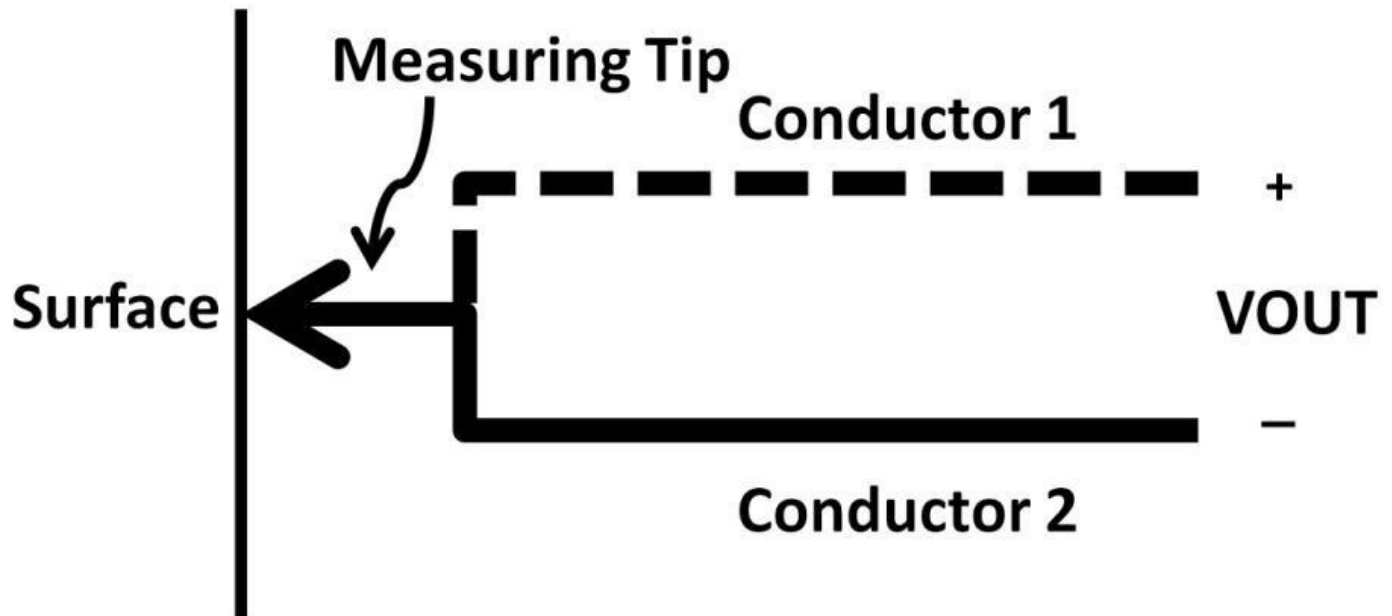

Figure 4.99: Thermocouple application
4) Many analog applications involve measuring temperature. A thermocouple is often used to measure temperature and produce an analog voltage. Thermocouple devices consist of two pieces of wire (conductor) made of different kinds of materials. The first conductor generates a voltage change from temperature change. The second conductor type would generate a voltage giving a different temperature gradient change. The transfer function of temperature per degree depends on the thermocouple type. A K-type thermocouple gives about 40 μV per $^{\circ}\text{C}$ while an S-type would give roughly 7 μV per $^{\circ}\text{C}$. Figure 4.99 below shows a typical thermocouple application.